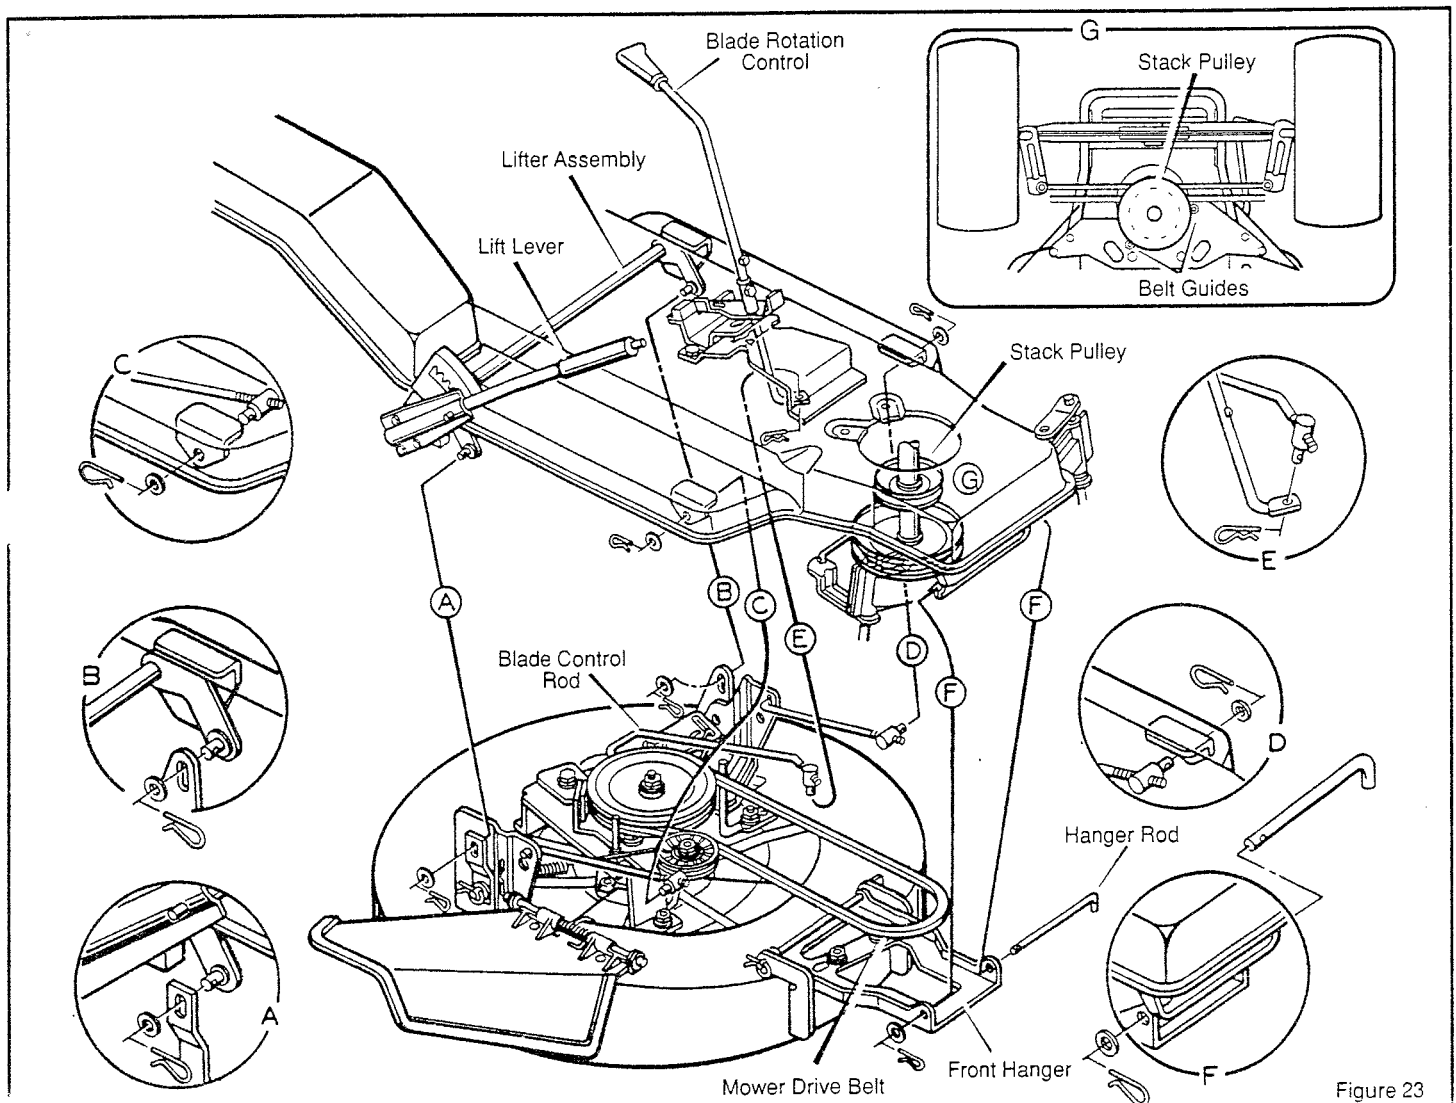

Figure 23
3. Remove the hair pins and the washers from the adjusting rods (Figure 23). See illustrations "C" and "D".